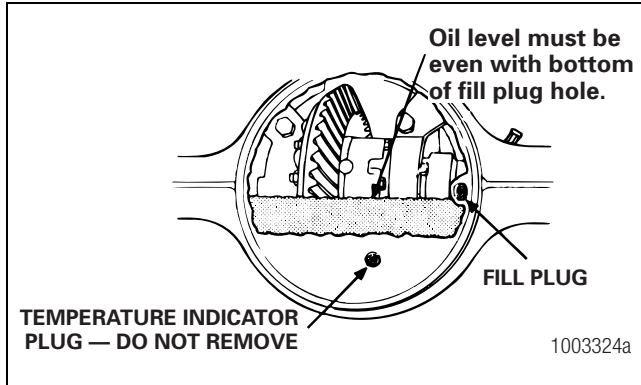

Figure 8.10
1. If the fill plug is only in the axle housing bowl, use that fill plug. Do not use the temperature sending unit hole. Figure 8.10.
3. Check the oil level. The level must be even with the bottom of the fill plug hole. Figure 8.10.